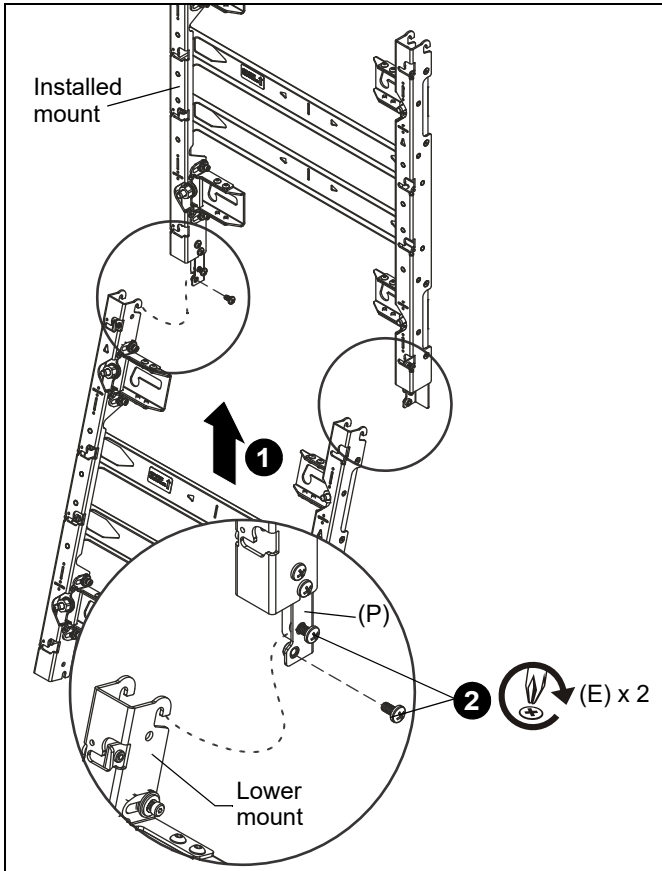

Figure 21
1. Hang the lower mount on the partially installed Phillips head screws (E) in the vertical connectors (P). (See Figure 21)
2. Tighten both lower screws (E) on both vertical connectors (P). (See Figure 21)